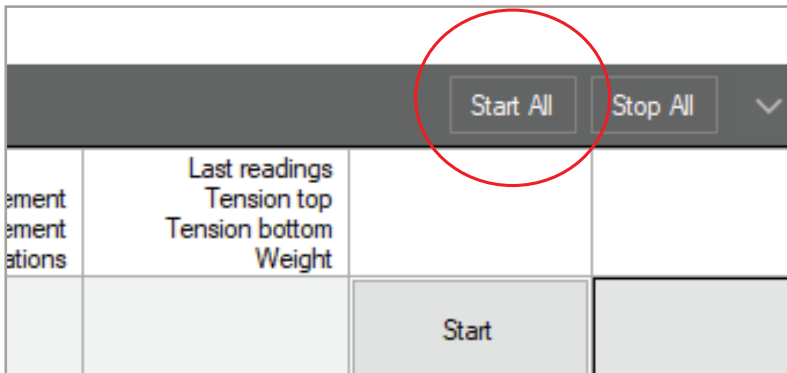

Figure 62 Start All
- The **Manager** also has an option to configure all measurements first, and then start them at the same time using the Start All button (Figure 62).
The Manager also has an option to first configure all measurements and then start them at the same time using the **Start All** button (Figure 62).